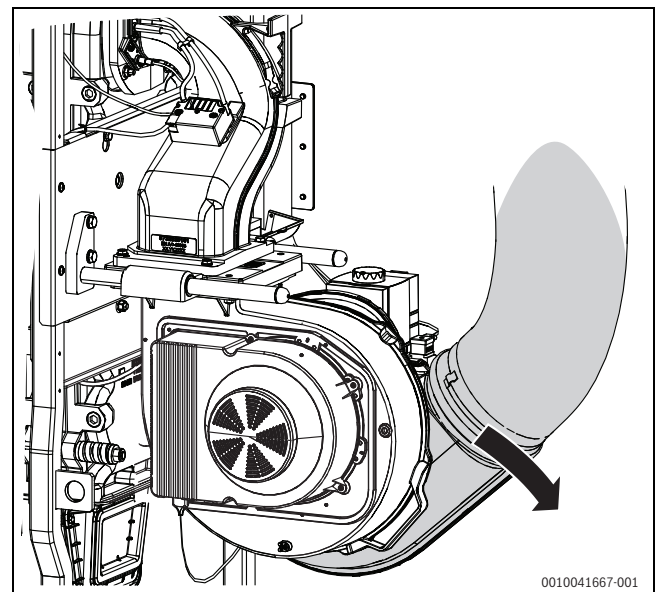

Fig. 5 Turn the inlet duct of the fan downwards
- ▶ Turn the inlet duct of the fan downwards (→ Fig. 5).